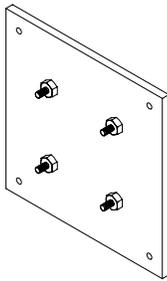

Figure 1-21. Ground Plate
h. **Ground Plates.** Ground plates are used in conjunction with standard base plates to provide increased load distribution over a greater area. They are used on asphalt, sandy soil and uneven surfaces. The ground plate shown in figure 1-21 is available in 12" (30.5 cm), 14" (35.6 cm) and 16" (40.6 cm) squares.